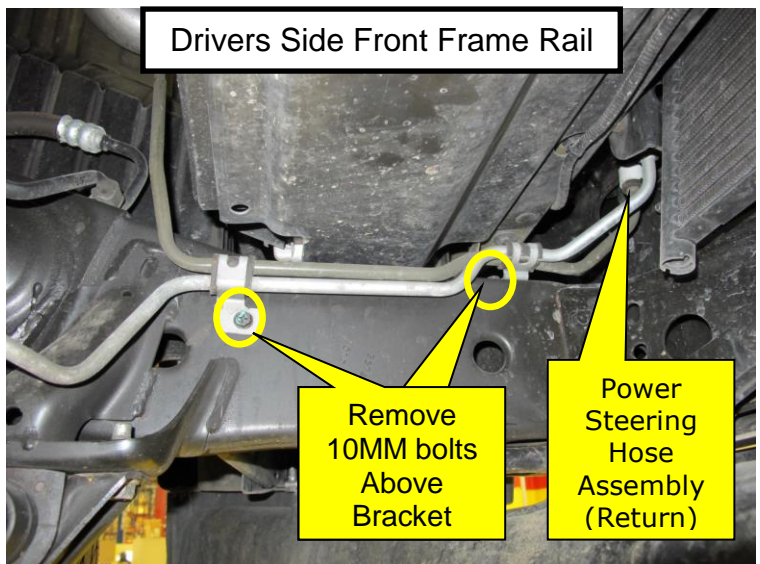

Figure 5
4. Remove Power Steering Hose Assembly (Return) bracket bolts (Figure 5).